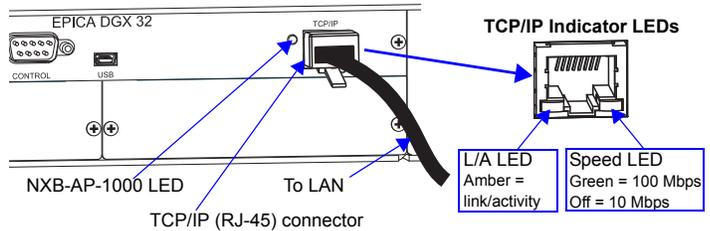

FIG. 7 TCP/IP (RJ-45) port and Indicator LEDs
4. Check indicator LEDs for the TCP/IP connector (FIG. 7).